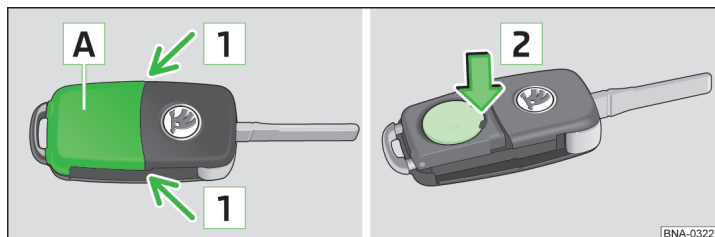

Fig. 97 Remove cover/take out battery
- › Press off the battery cover [A] » fig. 97 with your thumb or by using a screwdriver in the area of arrow [1].